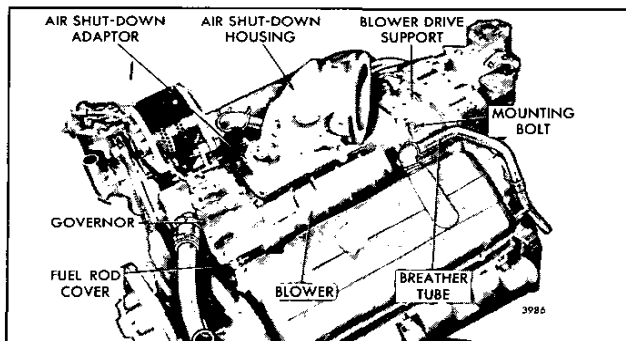

Fig. 3 - Typical Blower Mounting
- b. Position the light governor weights (high-speed limiting-speed governor) in a horizontal position to provide clearance (Fig. 3). Turn the operating shaft fork away from the blower, if necessary, for additional clearance.
Refer to Figs. 3 and 10 and disassemble the blower as follows: